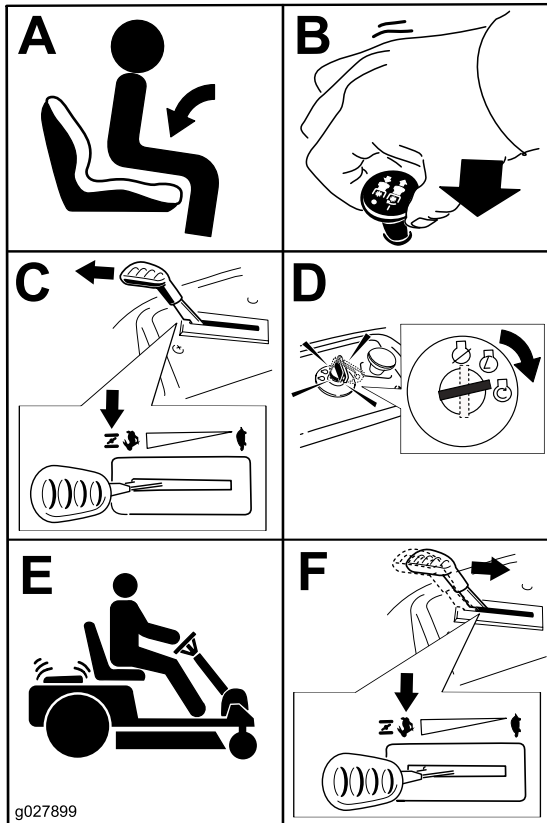

Figure 17
1. Disengage the blades by moving the blade-control switch to the OFF position (Figure 17).